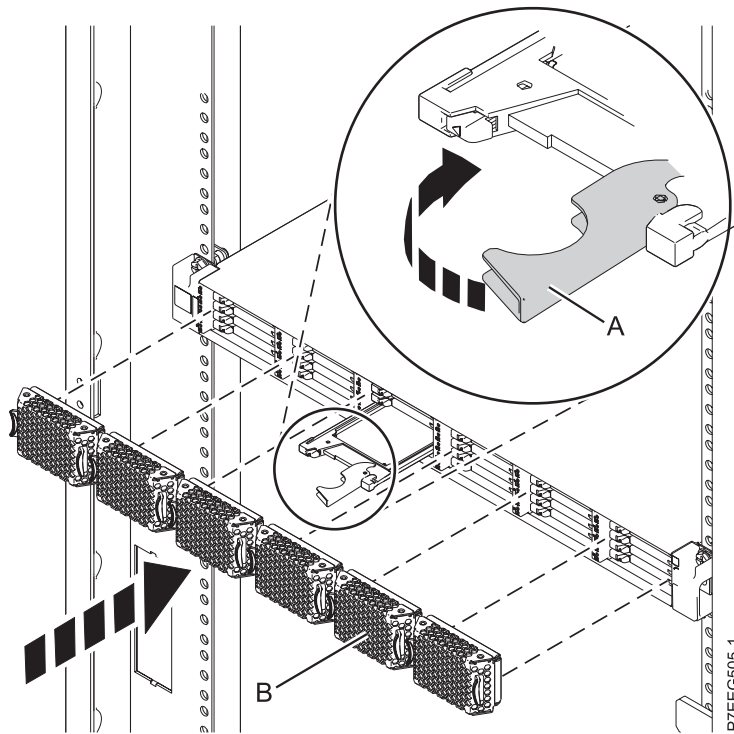

Figure 13. Installing a solid-state drive in the 58/88 PCIe storage enclosure
1. With the handle in the unlocked position, align the solid-state drive with the guide rails in the enclosure. See Figure 13 on page 23,
3. Rotate the handle (A) to the locked position, as shown in Figure 13.
4. Install the bezel (B).